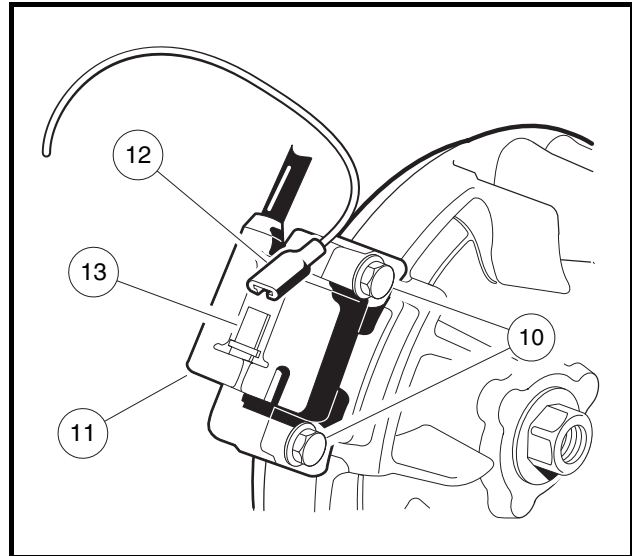

Figure 12-40 Black Wire and Ignition Coil
10. Disconnect the 18-gauge black wire (12) from the spade terminal (13) on the ignition coil (11) and remove the coil by removing two bolts (10) (**Figure 12-40, Page 12-35**).
11. Connect 18-gauge black (12) wire to the spade terminal (13) on the coil (Figure 12-40, Page 12-35).